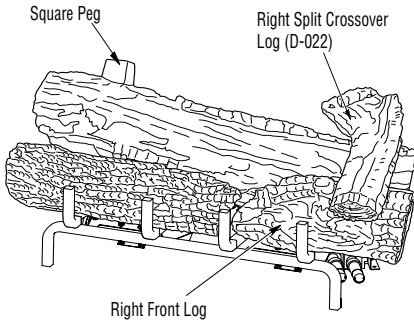

Figure 27 - Installing Right Split Crossover Log
- Find the right split crossover log (D-022). The bottom of the log has a rectangular stand off that fits in the slots on the right side of the front right log and the middle split log. Place this log as shown in **Figure 27**.